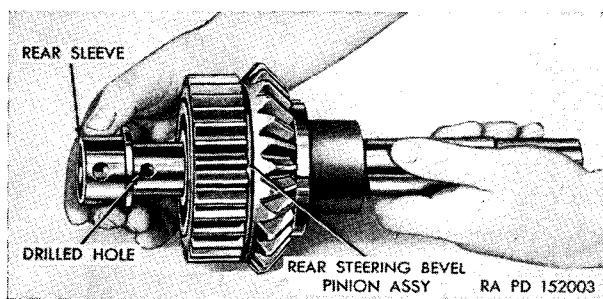

Figure 264. Installing rear sleeve.
- (13) Install the proper shim pack and bevel pinion on the spur gear. Install the tabbed lock washer and lock nut. Tighten the lock nut to 350 pound-feet using spanner wrench (41-W-640-310) (fig. 260) and bend the tab of the lock washer into the slot on the lock nut. Install the pinion assembly and the sleeve, both marked "rear," on the drilled end of the steering-differential shaft (fig. 264). Install the pinion assembly and the sleeve, both marked "front," on the undrilled end of the steering-differential shaft (fig. 259).